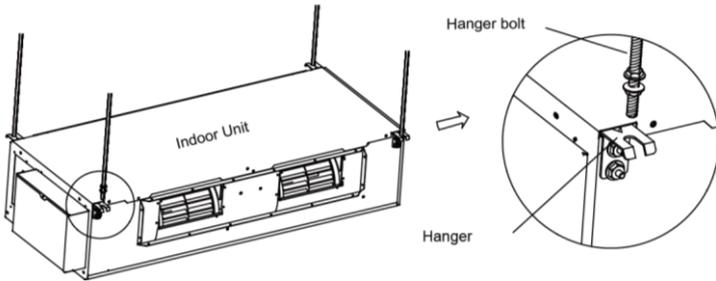

Fig.4.5
- (3) Install the hanger to the unit (Fig. 4.5).